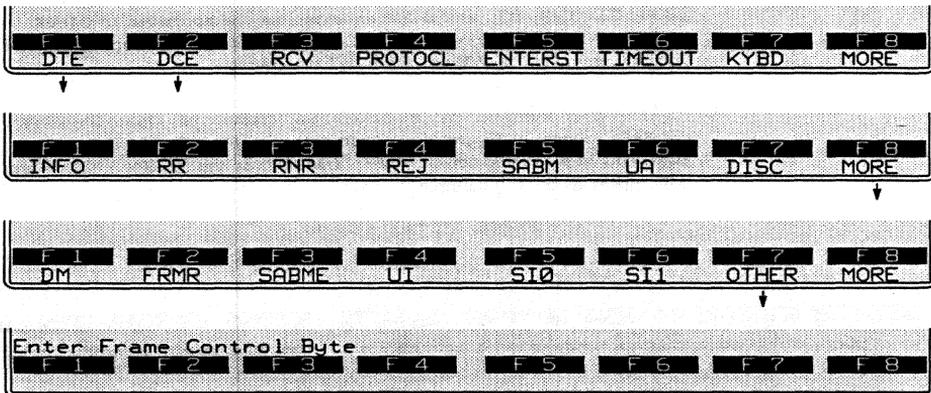

Figure 39-7 The hex value of any frame may be specified under *OTHER*.
5. *Other frames.* Any frame type may be entered as a hexadecimal value instead of by name. Press the softkey for *OTHER*. See Figure 39-7. Then enter the hex byte in the form of two alphanumerics. Here, for example, is a SABM (with the P bit set) entered as a hexadecimal: